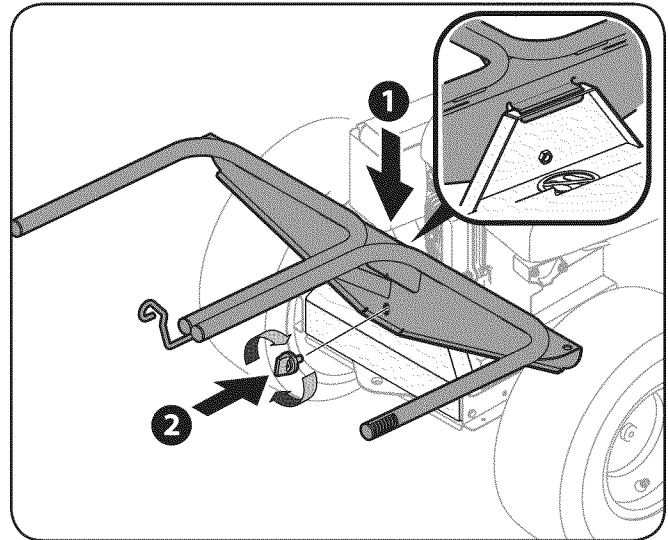

Figure 3
3. Install the grass-bag mounting assembly onto the bagger mounting bracket by lowering it down (1) and fitting the assembly into the slot provided in the mounting bracket. See the Inset in Figure 3.
4. Secure the grass-bag mounting assembly to the bagger mounting bracket using the attachment knob (720-04061) found in the hardware pack (683-05063). See (2) in Figure 3.